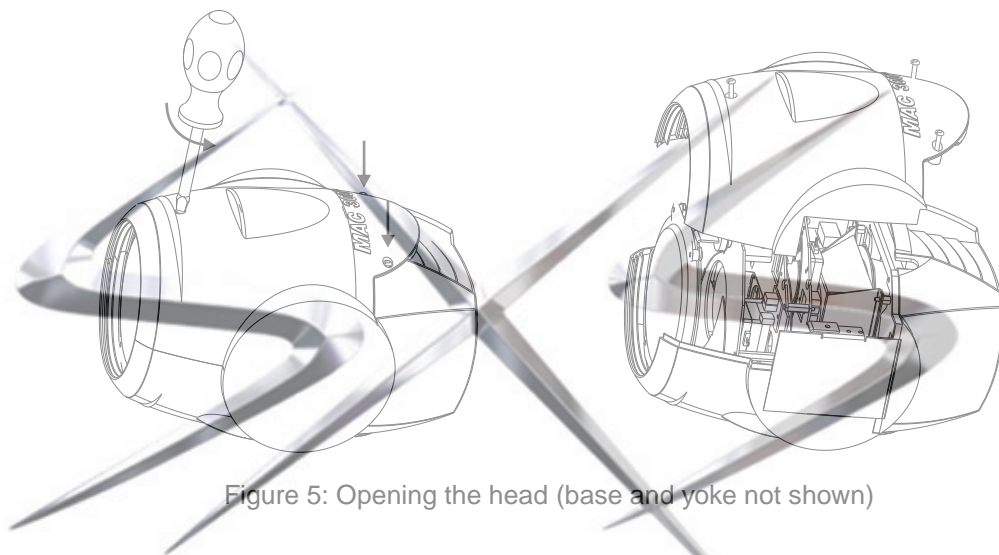

Figure 5: Opening the head (base and yoke not shown)
2. Remove the top cover from the head as shown in Figure 5.